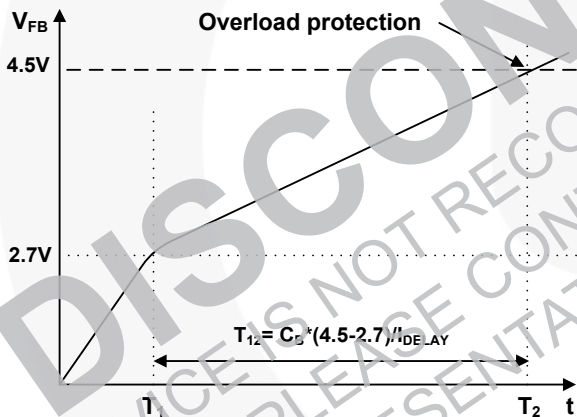

Figure 18. Overload Protection
**3.1 Overload Protection (OLP):** Overload is defined as the load current exceeding its normal level due to an unexpected abnormal event. In this situation, the protection circuit should trigger to protect the SMPS. However, even when the SMPS is in the normal operation, the overload protection circuit can be triggered during the load transition. To avoid this undesired operation, the overload protection circuit is designed to trigger after a specified time to determine whether the situation is transient or a true overload. Because of the pulse-by-pulse current limit capability, the maximum peak current through the senseFET is limited and, therefore, the maximum input power is restricted with a given input voltage. If the output consumes more than this maximum power, the output voltage ( $V_O$ ) decreases below the set voltage. This reduces the current through the opto-coupler LED, which also reduces the opto-coupler transistor current, thus increasing the feedback voltage ( $V_{FB}$ ). If  $V_{FB}$  exceeds 2.7V, D1 is blocked and the 5 $\mu$ A current source starts to charge  $C_B$  slowly up to  $V_{CC}$ . In this condition,  $V_{FB}$  continues increasing until it reaches 4.5V, when the switching operation is terminated, as shown in Figure 18. The delay time for shutdown is the time required to charge  $C_B$  from 2.7V to 4.5V with 5 $\mu$ A. In general, a 10 ~ 50ms delay time is typical for most applications. This protection is implemented in auto restart mode.